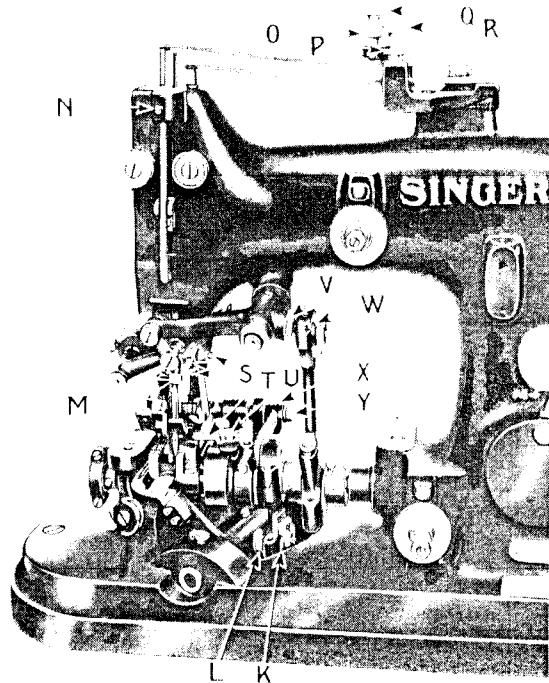

FIG. 6. ADJUSTMENTS ON MACHINE
Loosen the clamping nut (M, Fig. 6) at the lower end of the needle bar and put the needle up into the bar as far as it will go, with the ground-out side at the back, or farthest from you. Then tighten the clamping nut (M).
The length of stitch is regulated by means of the stitch regulator (X, Fig. 6). Loosen the nut (Y, Fig. 6) of the feed regulator clamp screw and move the regulator upward to shorten the stitch or downward to lengthen the stitch. Then securely tighten the nut (Y).
The pressure of the left hand presser foot on the material is regulated by the thumb screw (Q, Fig. 6) and the pressure of the right foot by the thumb screw (R, Fig. 6) at the top of the machine. To increase the pressure, loosen the lock nuts (O and P, Fig. 6) and turn the thumb screws (Q and R, Fig. 6) downward. To decrease the pressure, turn these screws (Q and R) upward. When the desired amount of pressure has been obtained, firmly tighten the lock nuts (O and P).
When the spreader is in its extreme left-hand position, its point should be about  $\frac{1}{2}$  inch to the left of the needle center, and about  $1\frac{1}{16}$  inch above the top of the throat plate. With this setting correct, turn the machine pulley until the spreader is at the lowest position of its movement, where the point should be about  $\frac{7}{16}$  inch below the top of the throat plate. The spreader may be moved up or down in its holder after loosening the three set screws (S, Fig. 6). The top of the spreader is usually about  $\frac{3}{32}$  inch above the top of the holder when the spreader is correctly set.
To set the spreader in the correct position at the left of the needle, loosen the lock nut (V, Fig. 6) and with wrench 132405, turn the eccentric ball stud (W) only part of a revolution as required, then tighten the lock nut (V).
Turn the machine pulley over from you until the looper is at the extreme left hand position; the looper point should then be about  $\frac{5}{8}$  inch from the centre of the needle. To set the looper in the correct position, loosen the lock nut (L, Fig. 6) and, with wrench 132405, turn the eccentric ball stud (K, Fig. 6) only part of a revolution as required, then tighten the lock nut (L).
The looper thread controller (T, Fig. 6) should be set so that it holds the thread until just before the spreader attains its highest position. Loosen the screw (U, Fig. 6) and move the controller toward the machine pulley for a quicker release of the thread, or toward the needle to retain the thread longer, then tighten the screw (U).
The needle thread take-up stripper should be adjusted to release the thread before the eye of the needle enters the material. Loosen the screw (N, Fig. 6) and move the wire stripper to the required position, then fasten the set screw.